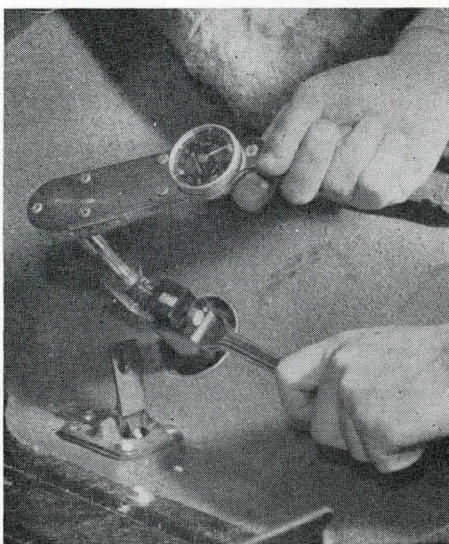

Figure 9
2. Using band adjusting tool (ATC-50A or AT-50), Torqometer (TQ-12-B), and 5/16" square socket (F-310), loosen front band lock nut; check freeness of adjusting screw in transmission case. If it is free, tighten band adjusting screw 60 to 72 inch pounds. Fig. 9.
3. With counter set at 00, and counter shift button at "A" position, back-off adjusting screw by turning the Torqometer handle counter-clockwise three turns as indicated on counter dial. Fig. 9.